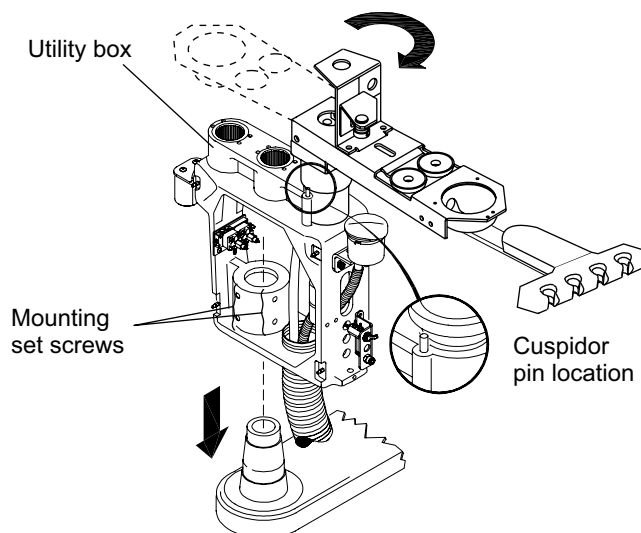
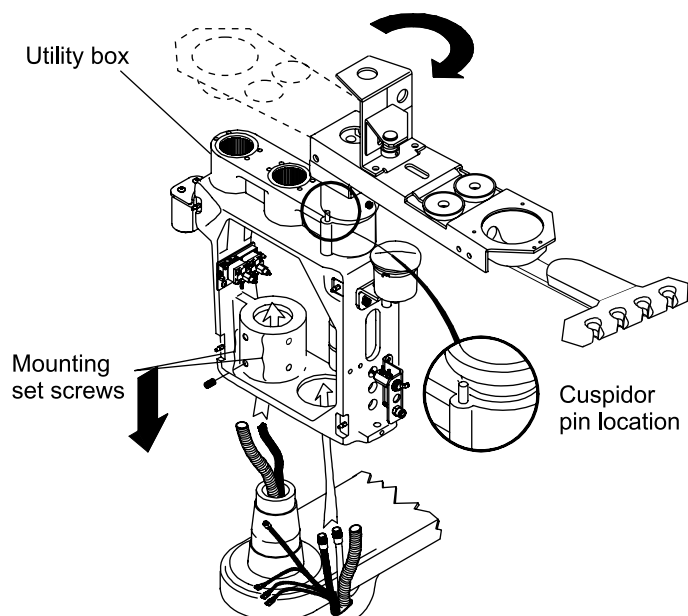

Figure 1A (External Umbilical)
Figure 1B (Internal Umbilical)
1. Locate the post-mounted utility center (PMU) in the delivery system box. Remove all items from box and remove packaging materials and tape from unit. Remove the two side covers from the utility center by pulling with both hands from the bottom, then the sides. (Note that one side cover is attached using ball studs and receivers, while the other is held in place by magnets.) Using a 3/16" hex driver, ensure that mounting set screws in the utility center are backed out enough to allow the mounting collar to pass freely over the unit mount hub (see figure 1A).
2. Install the utility center to the unit mount bracket as shown in figure 1A. Verify that the utility center is properly positioned with the water bottle to the front, the PMU aligned parallel to the chair rail and the cuspidor oriented towards the chair's backrest. If an internal umbilical system is to be installed, refer to figure 1B. Be careful to avoid pinching the tubing and cables coming up out of the chair mounting bracket hub. Snug mounting set screws to hold in place. Place (2) levels (at 90 degrees to each other) on top of pole holes. Level unit and tighten mounting set screws securely.
a. Route the remaining tubings and cables out from under the chair bracket and up through the opening in the bottom of the utility center casting (figure 1B).